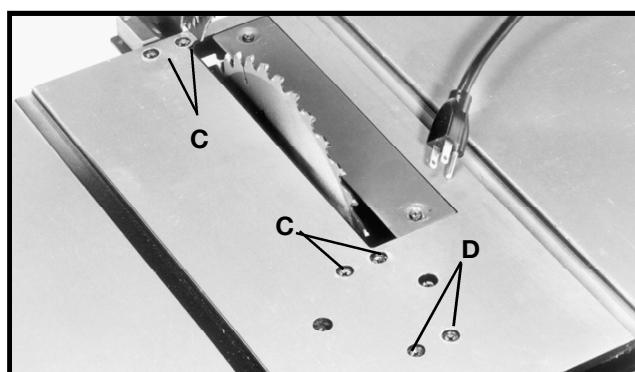

Fig. 43
6. If the front and back measurements (Figs. 41 and 42) are not identical, you can adjust the blade. Start by loosening the nuts below the four screws (C) Fig. 43 on the table. Then loosen the screws (C). Carefully move the saw blade until the blade is parallel to the miter gauge slot. When done, tighten four nuts under the table and the four screws (C) Fig. 43 securely.
**NOTE:** If sufficient adjustment cannot be achieved by loosening screws (C), screws (D) may also be loosened if absolutely necessary to make the adjustment.